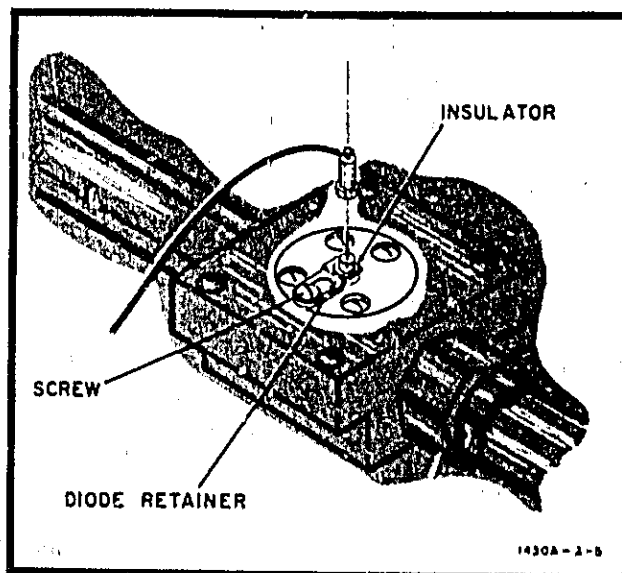

Figure 8-1. Diode Removal
- a. Loosen screw and slide diode retainer away from insulator as shown in figure 8-1.